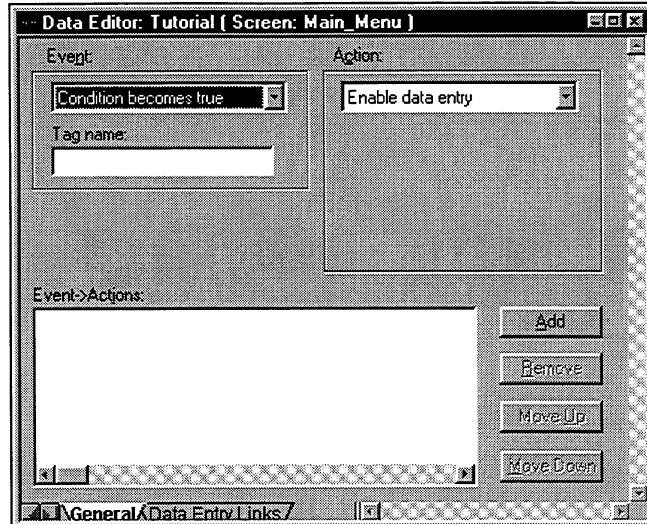

Figure 4-26. Main\_Menu Event/Actions Form
1. Open the Data Editor using icon on the toolbar or from the Tools menu.. Select Screens as the Type, and then double-click on the Main\_Menu entry in the list box. This accesses the Event/Actions form for the Main\_Menu screen, as shown in Figure 4-26.